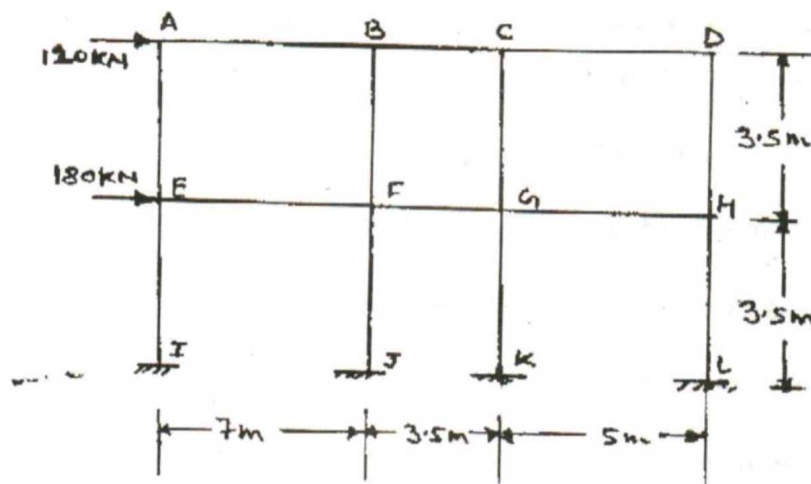

Fig1.
- (A) Analyse the building frame subjected to horizontal force of 120 kN at joint A and 180 kN at joint E as shown in fig 1 by using Portal Method.